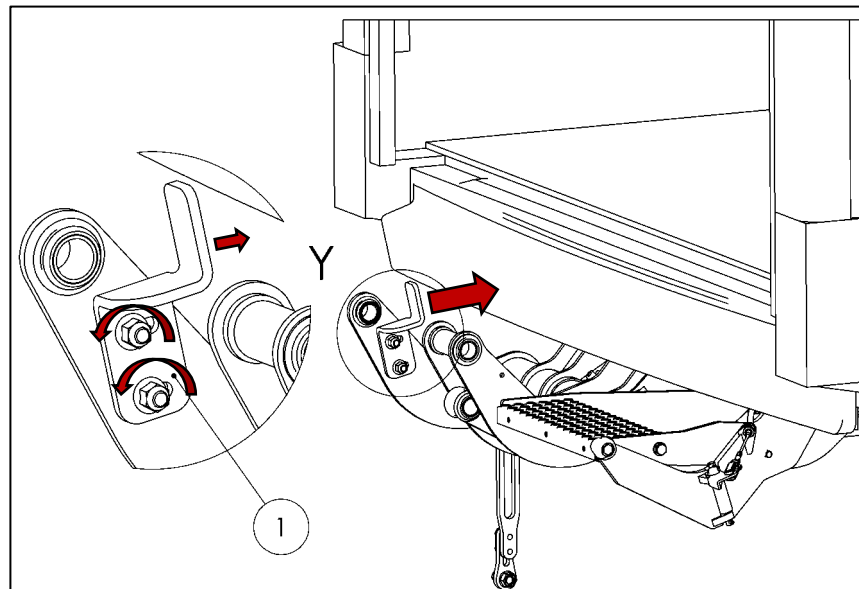

Fig. 52
- Loosen the platform stop (1) and push it toward the vehicle (see Fig. 52).